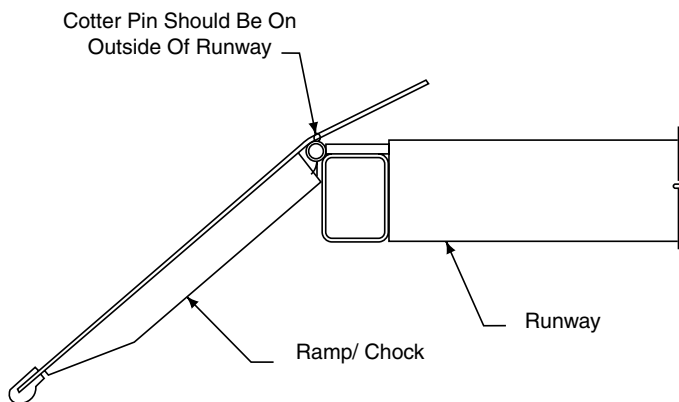

Fig. 27
15. Assemble ramp/chocks to rear of runways using hinge pins and cotter pins, Fig. 27